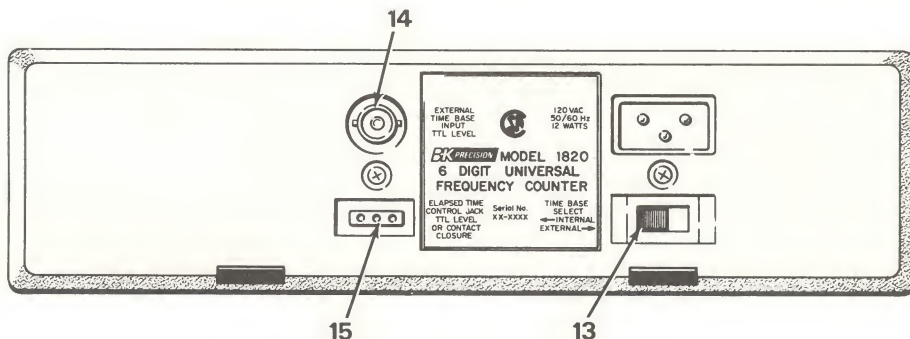

Fig. 4. Model 1820 rear panel.
13. **TIME BASE SELECT Switch.** This switch is on the rear of the Model 1820 and is shown in Fig. 4. It is set to the INT position when the counter is operating on its own internal 10 MHz time base generator. Set the switch to EXT position if it is desired to operate the counter from an external 10 MHz time base. The input from the external time base is applied to the counter through the BNC jack on the rear of the counter.